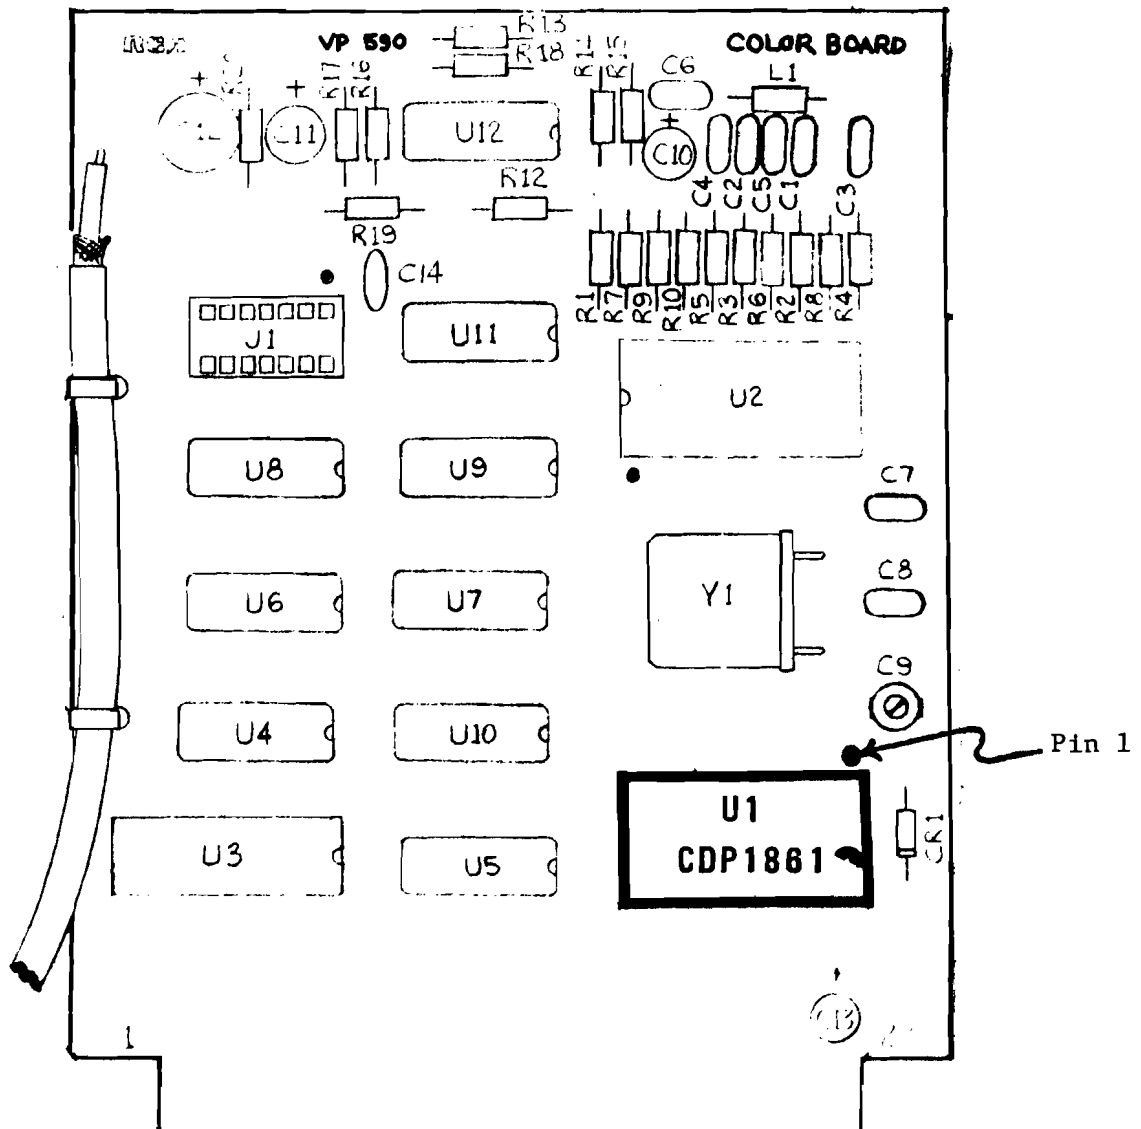

Figure 3-III
1. Modifying your VIP - Disconnect all power from the VIP. Remove the dust cover from your VIP by loosening and removing the retaining nut on the RESET/RUN toggle switch. Remove the cover by gently prying the lower edge of the cover from one side of the VIP circuit board. The cover will then lift off. Locate the two integrated circuit chips mounted in sockets marked U3 and U4 (see Figure 1-III). Remove the integrated circuits by gently prying them up. Also remove the integrated circuit marked on the board as U2 (type 1861). Install a short wire jumper between pins 3 and 5 of the socket of U4. Figure 1 shows the location of U2, U3, and U4. Figure 2 shows the placement of the jumper. Before replacing the dust cover, you may wish to modify the speaker wiring if you also intend to use the Simple Sound board. See Chapter IV. Replace the dust cover by snapping it back over the VIP circuit board. Screw the retaining nut back onto the RESET/RUN switch. The 1861 integrated circuit removed from the VIP should now be inserted in the socket on the Color board - refer to diagram figure 3-III and gently snap the circuit into the socket. Make sure the notch on the IC is correctly oriented.